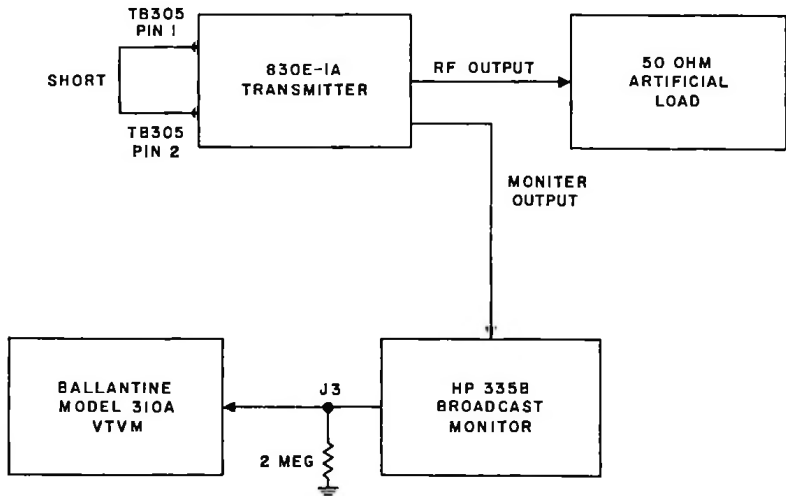

Figure 5-5. AM Noise Test Setup
a. Refer to figure 5-5. Short out terminals 1 and 2 of terminal board TB305. Connect a vacuum-tube